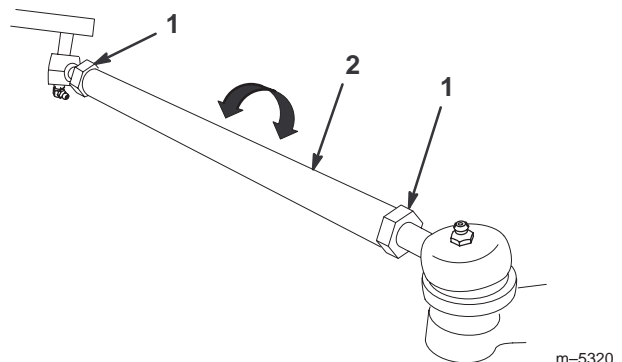

Figure 27
3. If the measurement does not fall within the specified range (refer to the dimensions and parameters at the beginning of this procedure), loosen the jam nuts at both ends of the tie rods (Fig. 27).